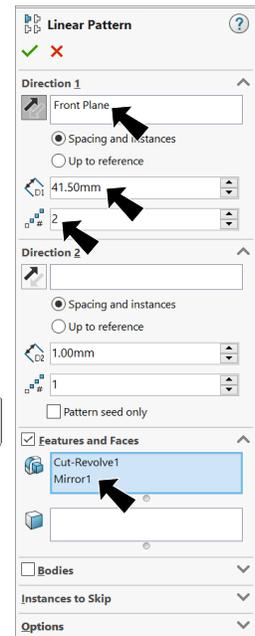

Fig. 29
Step 3. In the Linear Pattern Property Manager set: under Direction 1, **Fig. 29**